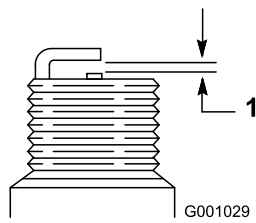

Figure 34
4. Set the gap between the electrodes on a new spark plug at 0.76 mm (0.030 inch) as shown in Figure 34.